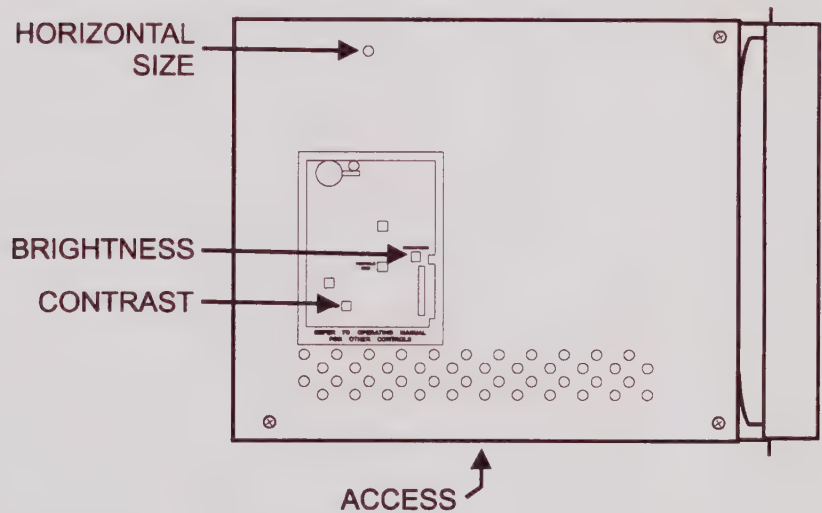

Figure 6-23. CRT Monitor Adjustments
- Step 1.** Refer to the locator drawing on the CRT Monitor assembly top cover and locate the brightness and contrast trim pots, accessible through the side opening (Figure 6-23).
- Step 2.** Insert a plastic or nylon hex alignment tool through the access hole (see Figure 6-23) and carefully adjust the horizontal size coil until the display is centered on the CRT.